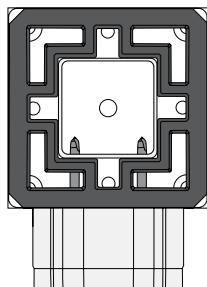

Figure 8
- For top rail brackets, use $2\frac{1}{2}$ " screws, all the way through into the steel post. Look down from top of post to make sure screws penetrate steel post (Figure 8).